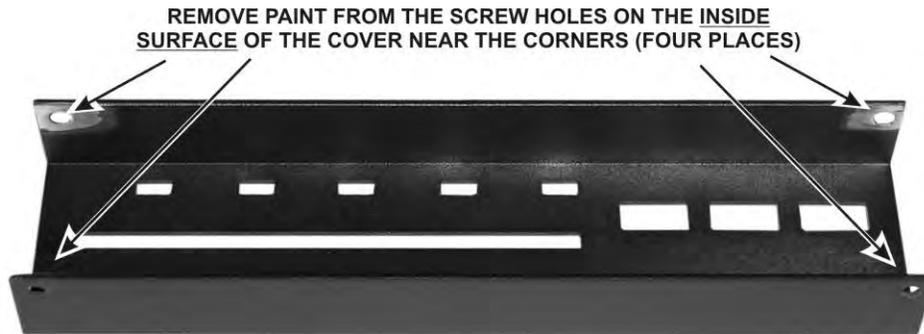

Figure 9. Preparing Front Panel Cover for Mounting
- ❑ Locate the front panel cover and remove the paint from around the screw holes on the **inside surface** to it will make good contact with the other case parts (see Figure 9).